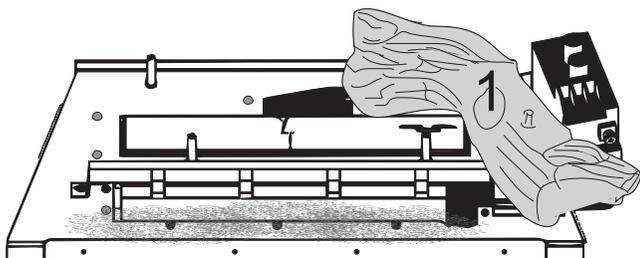

Figure 5.2 - Log #1 Placement
2. Place log #1 on the right-hand side of the burner assembly by positioning the pin locator hole on the bottom of the log over the pin on the right-hand side of the burner and by rotating the log clockwise toward the back to contact the rear bend on the sheet metal of the burner assembly. With the log in place, make sure that the notch on the bottom of the log match up with the bracket on the grate. See Figure 5.2.